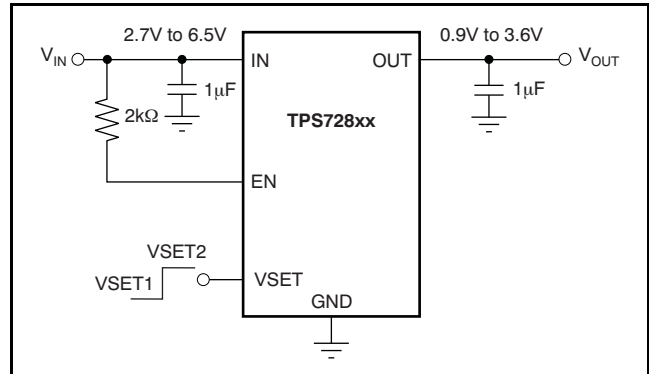
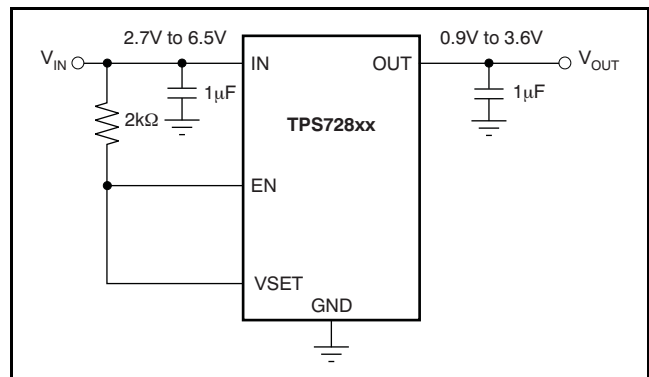

Figure 40. Circuit Showing EN Tied High when Shutdown Capability is Not Required
Figure 41. Circuit to Tie Both EN and VSET High
The enable pin (EN) is active high and is compatible with standard and low voltage, TTL-CMOS levels. When shutdown capability is not required, EN can be connected to the IN pin, as shown in Figure 40. Figure 41 shows when both EN and VSET are tied to IN. The TPS728xx, with internal active output pulldown circuitry, discharges the output to within 5% of V_{OUT} with a time (t) of: